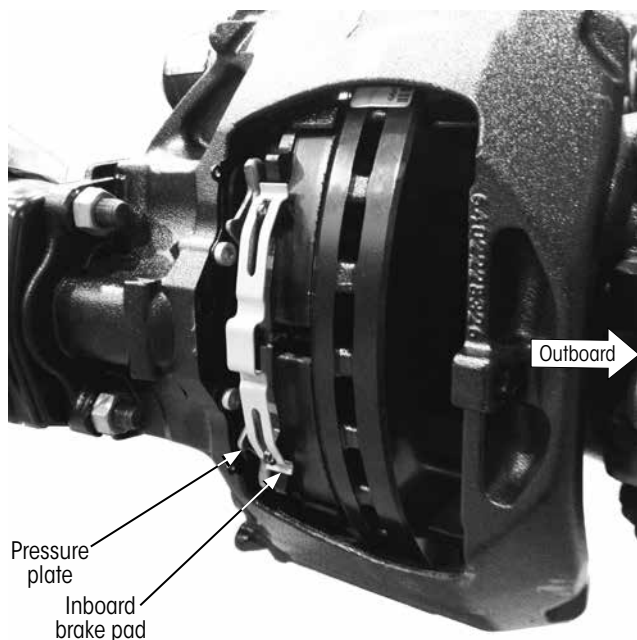

Figure 36: Inserting new brake pad, inboard
5. **Insert** the inboard brake pad (Figure 36).
6. **Manually push** the brake caliper outboard until the inboard brake pad contacts the rotor (Figure 36).